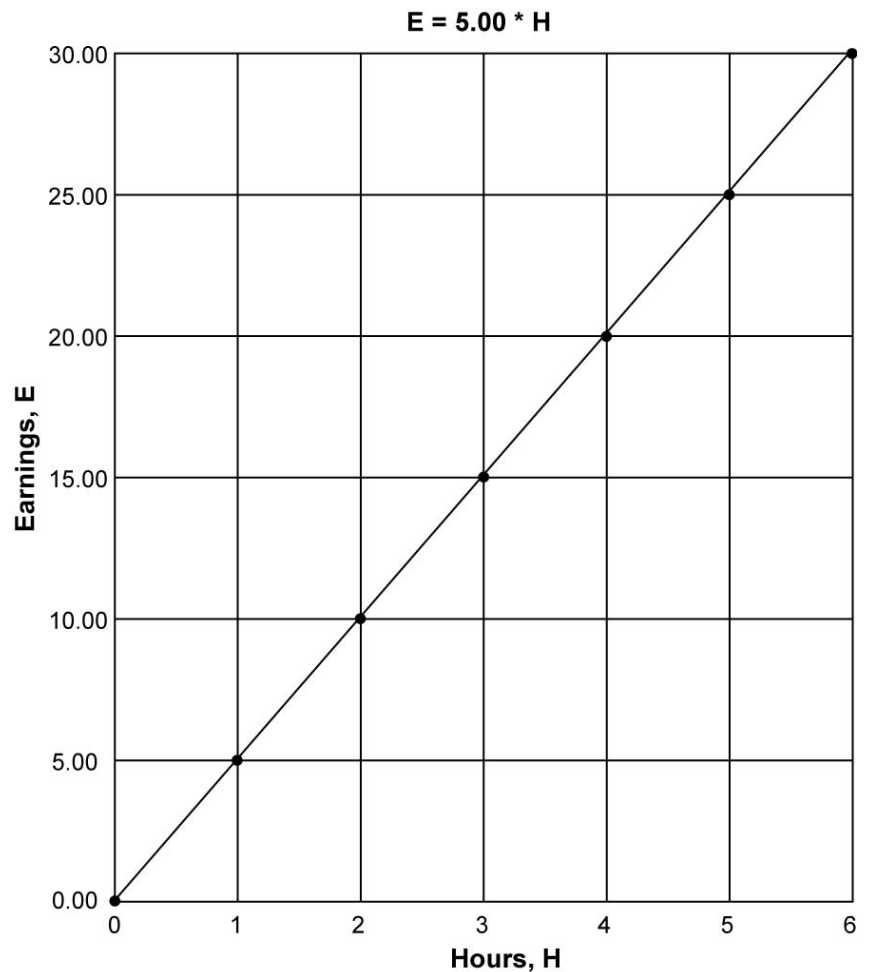

Figure 17: Two Terms that Are Directly Related
- **Directly Related:** Two terms, A and B, are directly related if as A is increased, B increases and B's increase is proportional to A's increase. For example, let's say you are paid a wage of \$5.00/hour. Then your earnings (E) are equal to your wage times your hours (H) worked, or $E = 5.00 H$. The terms E and H are directly related since E increases in proportion to an increase in H. If H is doubled, E is doubled; if H is tripled, E is tripled, etc. See the table and graph in Figure 17 below: